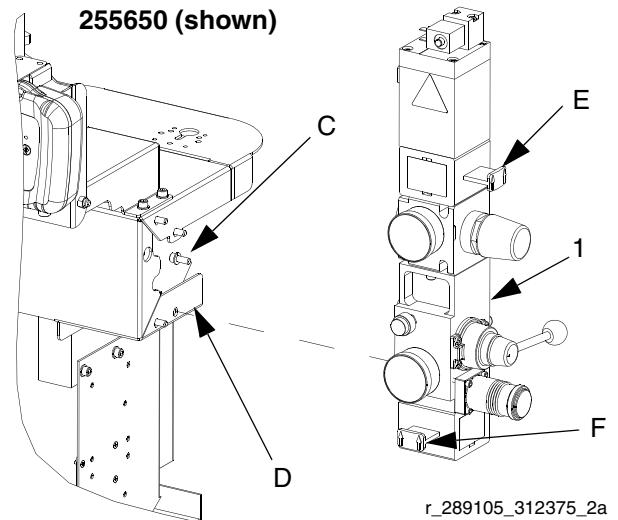

FIG. 2
1. Using four screws, attach the integrated air controls to the mounting bracket. See FIG. 2.